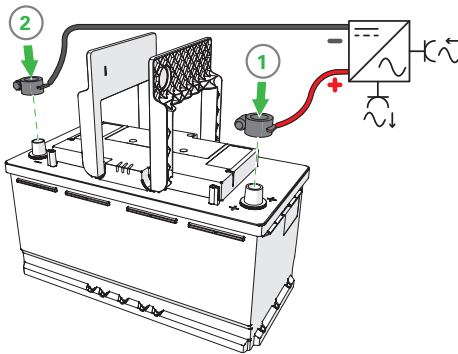

Figure 1.
1. Connect the load or charger to the X2 (+) terminal of the battery. (Figure 1)
2. Connect the load or charger to the X1 (-) terminal of the battery. (Figure 1)